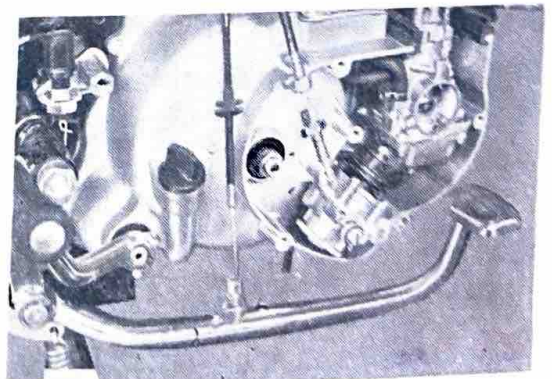

Fig. 3-1-14
14. Disconnect the pump cable and clutch cable together with the adjusting holder. (Fig. 3-1-14)